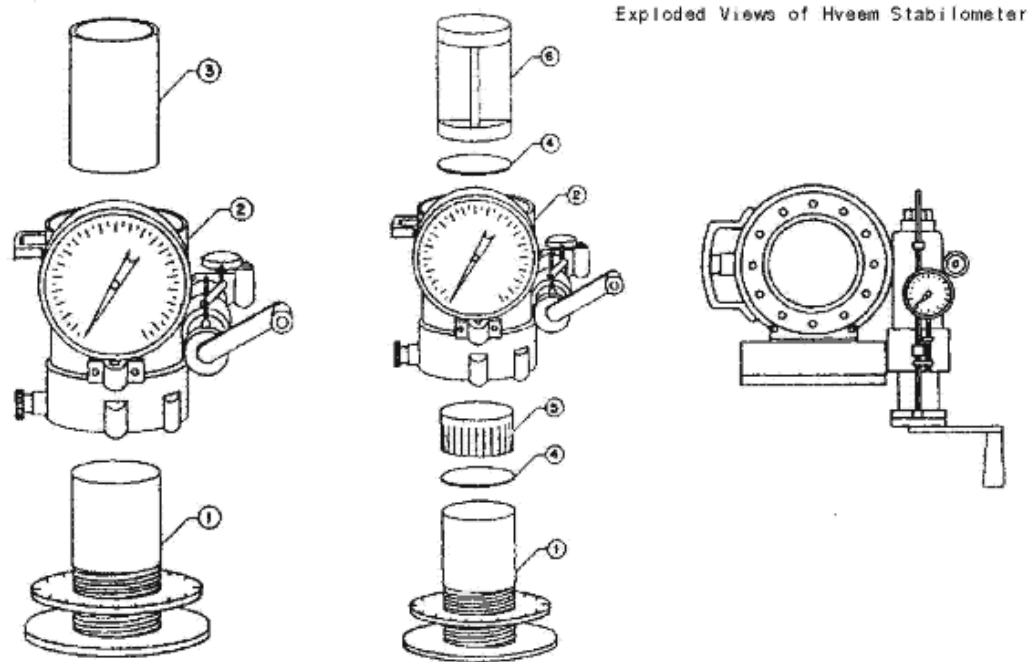

Figure 1—Hveem Stabilometer
- 3.1 *Hveem stabilometer*, with adjustable stage (see Figure 1.) An instrument designed to subject a specimen 4 in. (102 mm) in diameter and approximately 2 in. (51 mm) high to triaxial compression. It consists of a cylindrical metal shell and flexible rubber diaphragm, which serves as a cell for the hydraulic fluid. It also includes a pressure gauge, a screw-type hand pump assembly, and an air chamber fitted with a needle valve (relief valve) and air-in valve for adjusting the quantity of air in the system.